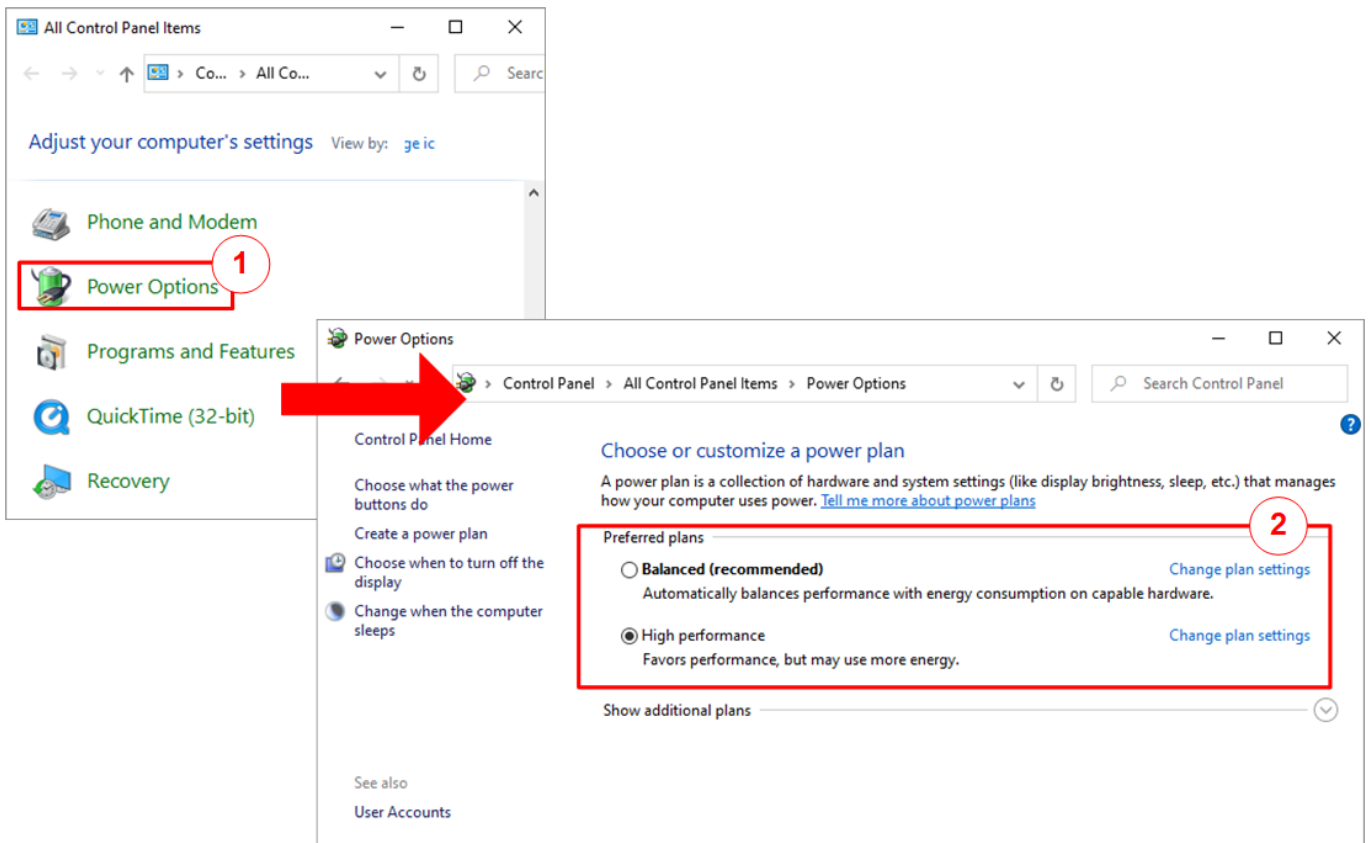

Figure 2-5 Power options
- 1) Open Control Panel and select Power Options as shown in the left window of Figure 2-5.
- 2) Change setting to High Performance as shown in the right window of Figure 2-5.